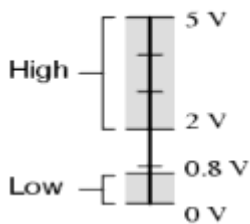

Figure 5: Acceptable Logic Gate Input Signals
Logic gates operate on a nominal power supply voltage of 5 V. In real world applications, logic gates are designed to accept “high” and “low” signals deviating substantially from the ideal values. If a voltage signal ranging between 0.8 V and 2 V (see Figure 5) were sent into the input of a logic gate, there would be no certain response from the gate. The signal would be considered uncertain, and the logic gate manufacturer would not guarantee how the gate circuit would interpret such a signal.
15. During a severe storm, the wind causes a tree to fall onto the transmission line and creates a fault. If the logic gate performs according to the specifications in Figure 5 (assuming a low input begins at 0.7 V), what will be the approximate capacity of the line in watts at the time the circuit breaker is tripped?